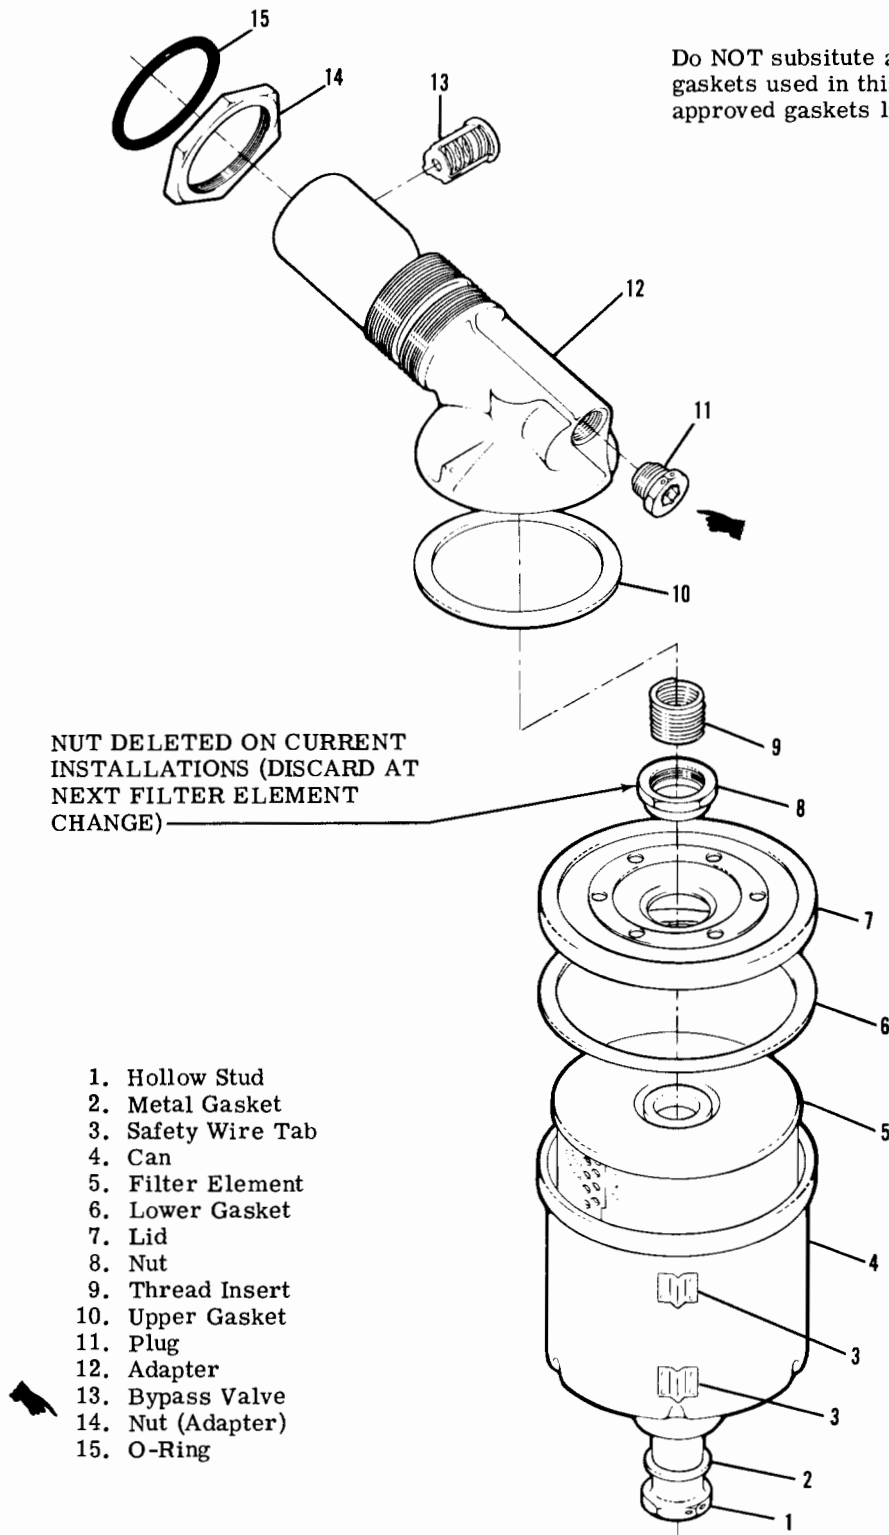

Figure 12-4. Full-Flow Oil Filter
12-33. REMOVAL AND INSTALLATION. (Refer to figure 12-4.)
#### 12-35. REMOVAL. (Refer to figure 12-4.)
Figure 12-4 shows the relative position of the internal parts of the filter adapter and may be used as a guide during installation of parts. The bypass valve is to be installed as a complete unit, with the valve being staked three places. The heli-coil type insert (9) in the adapter may be replaced, although special tools are required. Follow instructions of the tool manufacturer for their use. Inspect threads
- a. Assemble adapter nut (15) and new O-ring (16) on adapter (12) in sequence illustrated in figure 12-4.
- c. Apply anti-seize compound sparingly to the adapter threads, then simultaneously screw adapter and adapter nut into engine until O-ring seats against engine boss without turning adapter nut (15). Rotate adapter to approximate angular position noted during removal. Do not tighten adapter nut at this time.